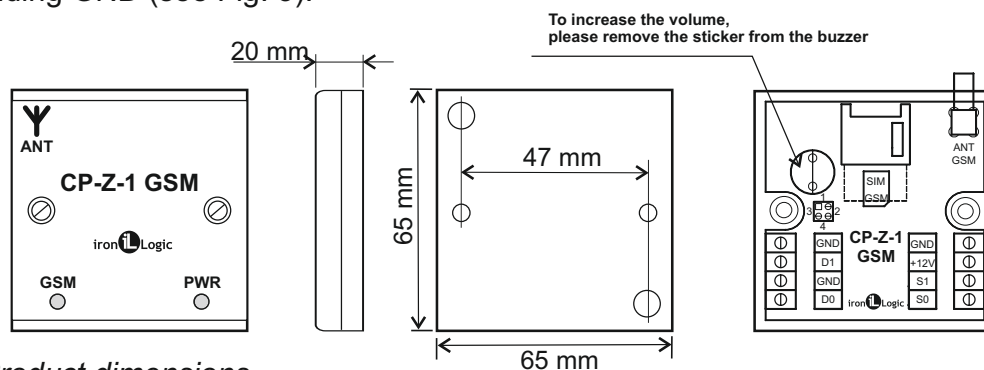

Fig. 1 Product dimensions.
1. Mark and drill mounting holes to fit the size of the reader holes (see Fig. 1).